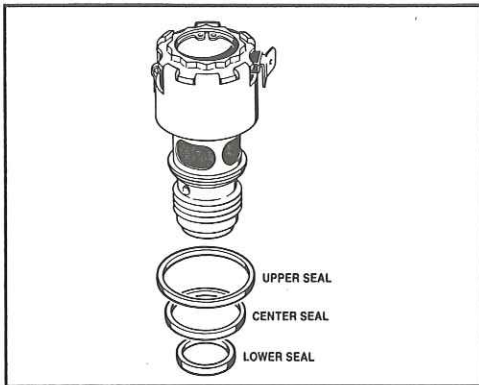

Fig. 30
2. Remove and discard the three rubber seal rings (Fig. 30). If the lower ring stays in the bottom of the housing solenoid bore, remove with a seal pick.